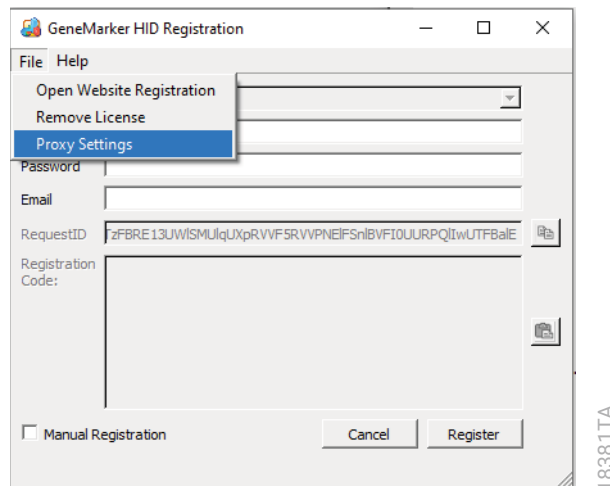
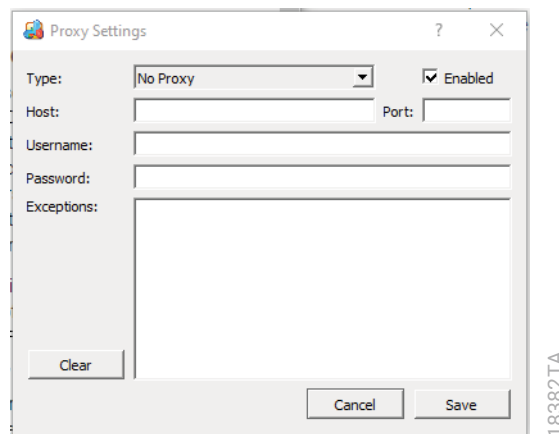

Figure 16. Accessing the 'Proxy Settings' window from the 'GeneMarker HID Registration' window.
Figure 17. 'Proxy Settings' window.
1. Select **Proxy Settings** from the File menu of the 'GeneMarker HID Registration' window (Figure 16) to open the 'Proxy Settings' window (Figure 17).
5. Select **License Server Manager** in the 'Select components to install' field of the 'Choose Components' window (Figure 16), then select **Next**.
6. The setup wizard will first install GMHID-Spectrum. Choose the Destination Folder for the software in the 'Choose Install Location' window (Figure 17), then select **Next**.